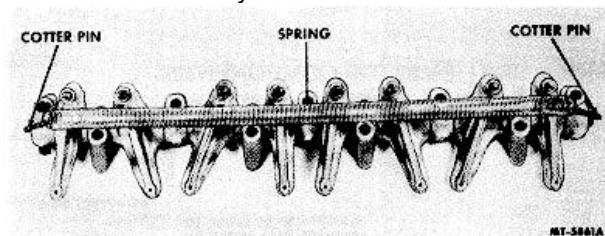

Fig. 141 Method of Holding Rocker Arm Assembly Together for Installation
10. After rocker arm shaft has been completely assembled, a spring and two cotter pins (Figure 141) can be used to hold assembly together for installation on cylinder head.